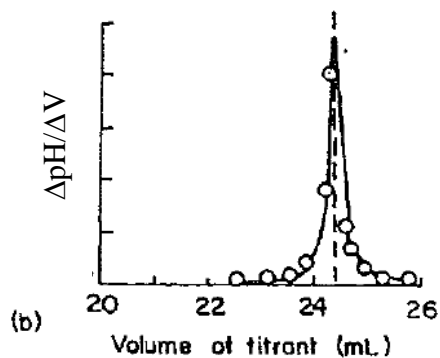

Figure 4. First-derivative curve
1. Plotting first derivative curve by calculating the change in potential or pH per unit volume of titrant (that is, $\Delta E/\Delta V$ or $\Delta \text{pH}/\Delta V$). A plot of $\Delta E/\Delta V$ or $\Delta \text{pH}/\Delta V$ as a function of corresponding reagent volume produces a curve with a maximum that corresponds to the point of inflection (Figure 4).